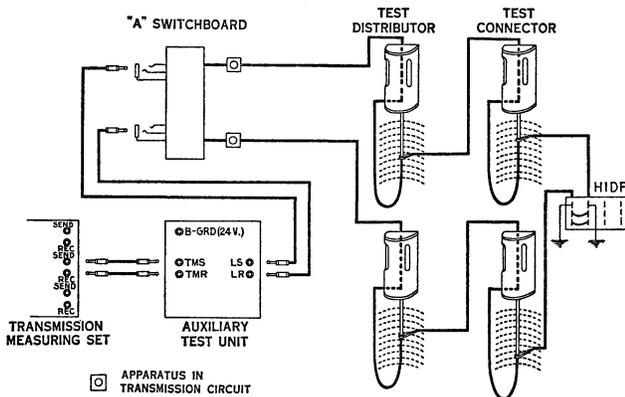

Figure 1
- 2.02 Figure 1 shows schematically the connections for the test.